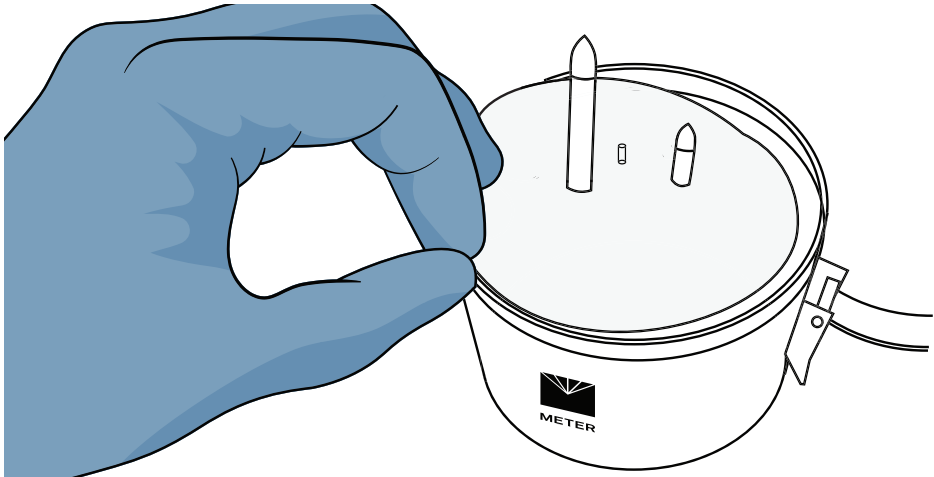

Figure 44 Silicone disk
16. Place the silicone disk on the sensor unit and remove any air between the surface and the disk (Figure 44).